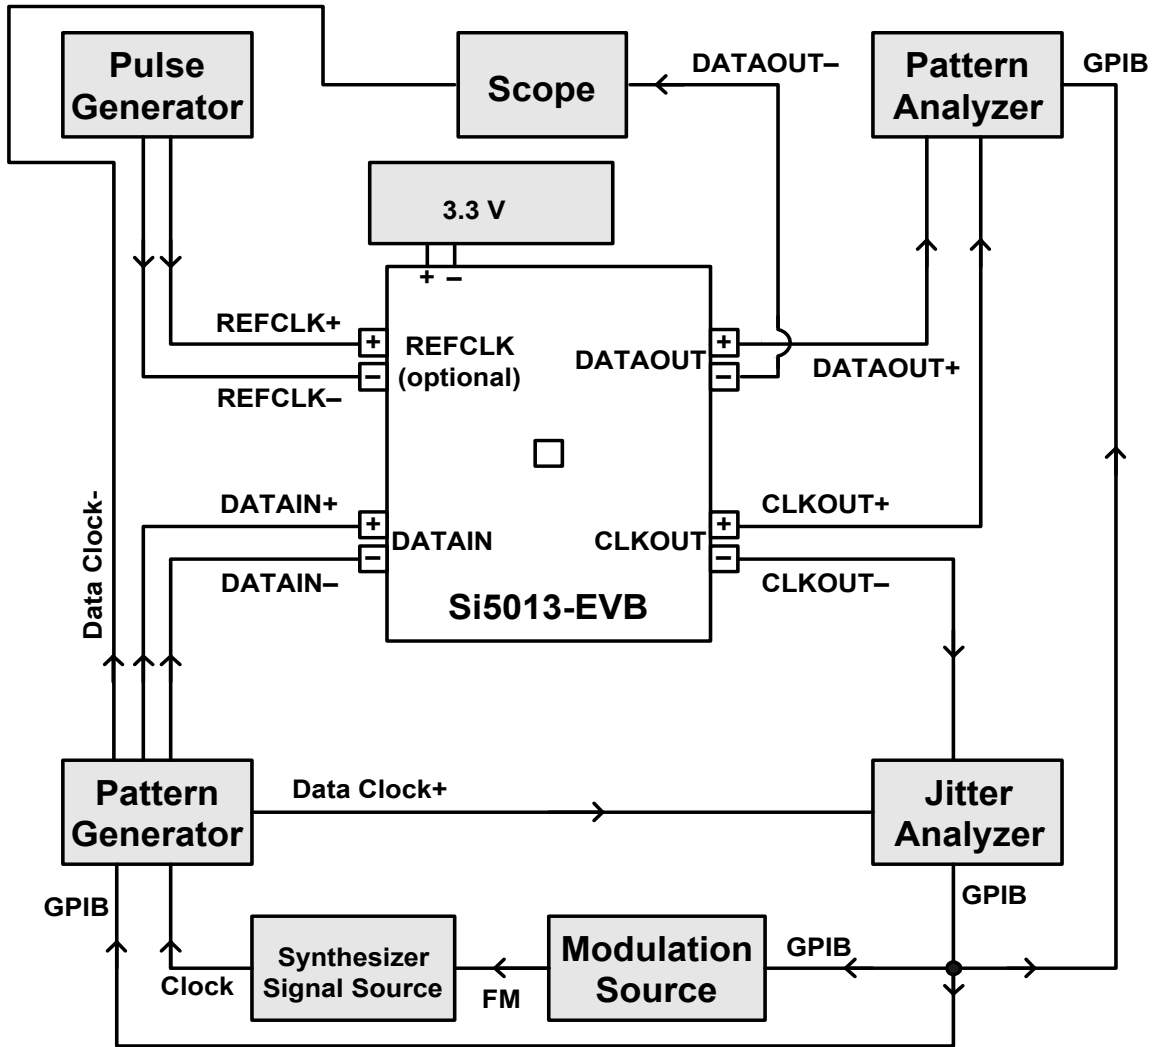

Figure 3. Test Configuration for Jitter Tolerance, Transfer, and Generation
The three critical jitter tests typically performed on a CDR device are jitter transfer, jitter tolerance, and jitter generation. By connecting the Si5013 Evaluation Board as shown in Figure 3, all three measurements can be easily made.
**Jitter Tolerance:** Referring to Figure 3, this test requires a pattern generator, a clock source (synthesizer signal source), a modulation source, a jitter analyzer, a pattern analyzer, and a pulse generator (all unconnected high-speed outputs must be terminated to 50  $\Omega$ ). During this test, the Jitter Analyzer directs the Modulation Source to apply prescribed amounts of jitter to the synthesizer source. This “jitters” the pattern generator timebase which drives the DATAIN ports of the CDR. The Bit-Error-Rate (BER) is monitored on the Pattern Analyzer. The modulation (jitter) frequency and amplitude is recorded when the BER approaches a specified threshold. The Si5013 limiting amplifier can also be examined during this test. Simply lower the amplitude of the incoming data to the minimum value typically expected at the limiting amplifier inputs (typically 10 mVPP for the Si5013 device).
**Jitter Generation:** Referring to Figure 3, this test requires a pattern generator, a clock source (synthesizer signal source), a jitter analyzer, and a pulse generator (all unconnected high-speed outputs must be terminated to 50  $\Omega$ ). During this test, there is no modulation of the Data Clock, so the data that is sent to the CDR is jitter free. The Jitter Analyzer measures the
Jitter Transfer: Referring to Figure 3, this test requires a pattern generator, a clock source (synthesizer signal source), a modulation source, a jitter analyzer, and a pulse generator (all unconnected high-speed outputs